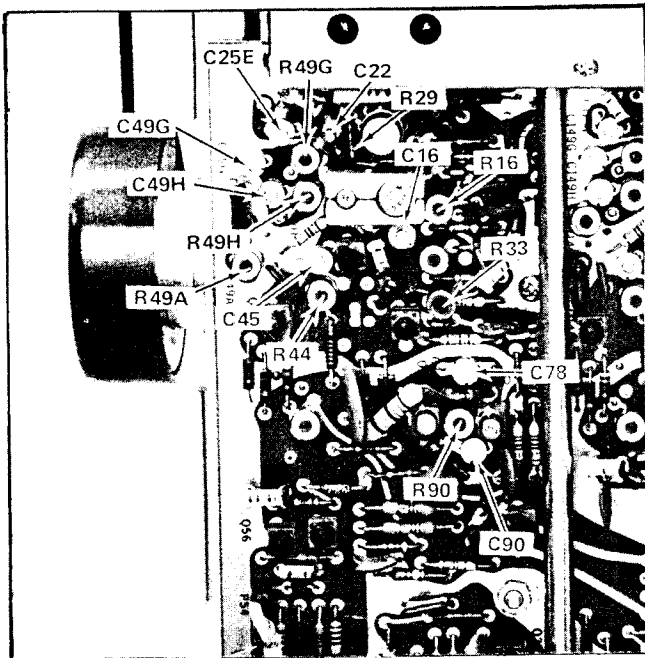

Fig. 5-11. Location of CH 1 compensation adjustments.
g. ADJUST—If the CRT display exceeds the limits of the CHECK—step, use the following adjustment procedure. See Fig. 5-11 for location of adjustments.